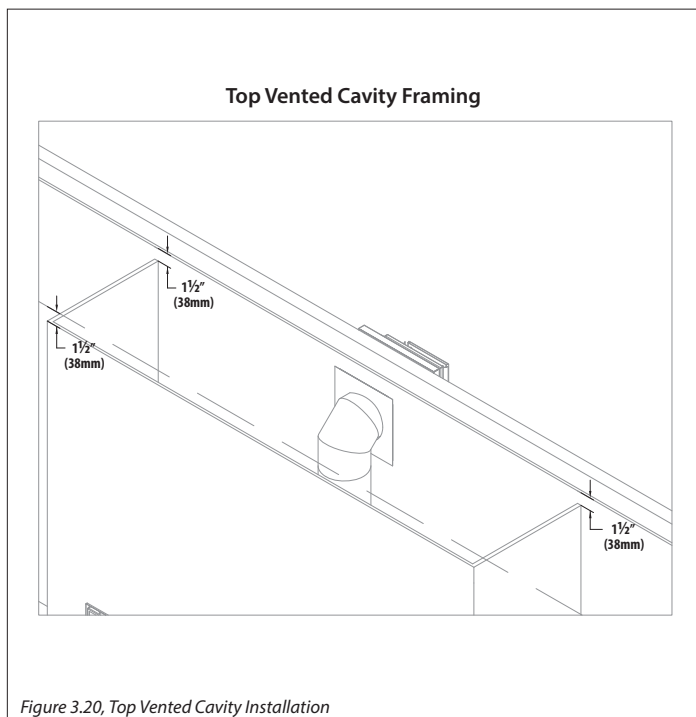

Figure 3.20, Top Vented Cavity Installation
- Figure 3.20 shows the fireplace chamber ending 1-1/2" from the ceiling on all three sides with the entire top of the chamber 1-1/2" from the ceiling.